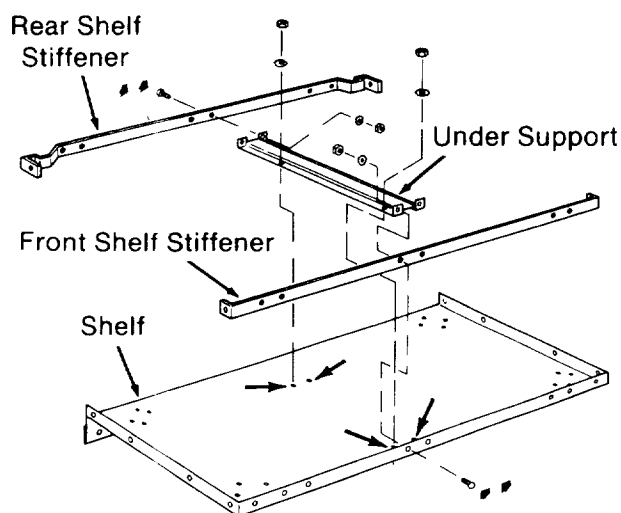

Fig. 14
1. Turn the *shelf* upside down on the floor. The wide edge should point down, and the three narrow edges should point up. (Figure 14)
2. Place the *front shelf stiffener* inside and against the front edge of the *shelf* so that all six holes line up. (Figure 14)
3. Place the *under support* on the *shelf*, so that the two holes on one end line up with the center holes on the other two parts. (Figure 14)
5. Place the *rear shelf stiffener* on the *shelf* so that the two ends fit between the edges of the *shelf*, and the two center holes line up with the holes at the end of the *under support*. (Figure 14)